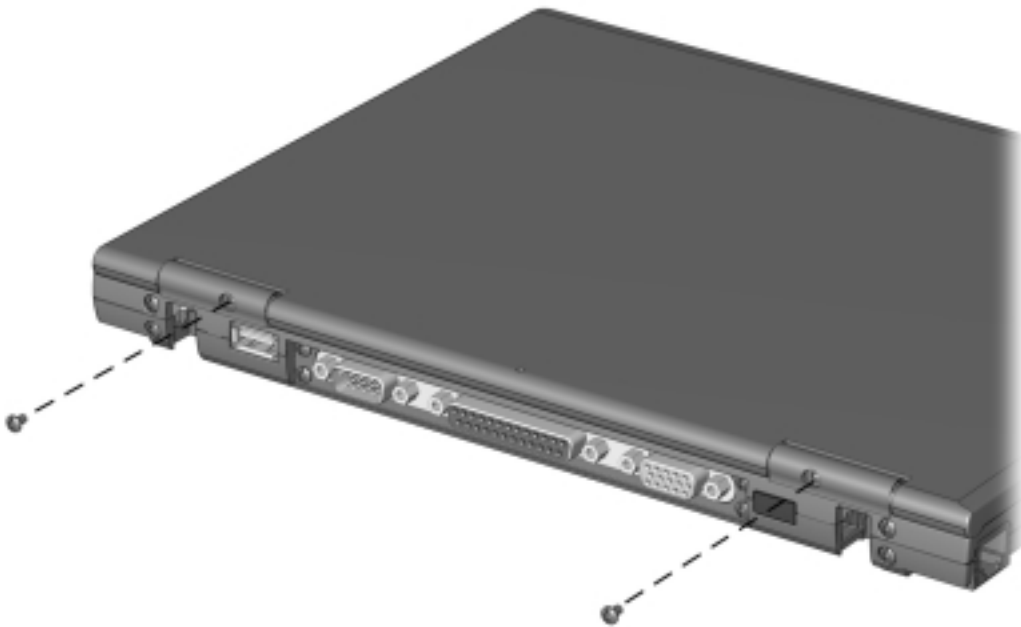

Figure 5-18. Removing the Switch Cover Screws
4. Remove the two screws from the rear panel of the computer that secure the switch cover to the base assembly (Figure 5-18).